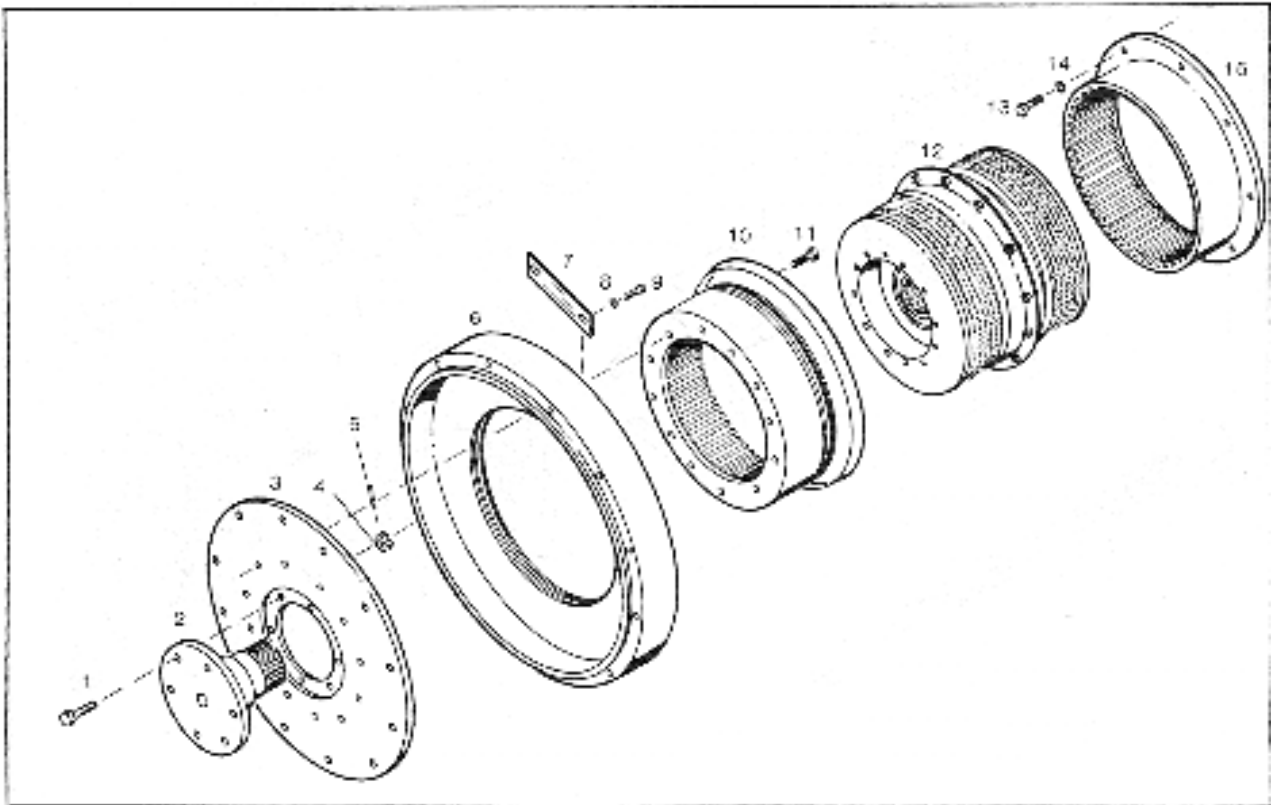

Figure 41. 'HY' Adapter Group and Clutch Pack
8. Fig number and reference number	fig.41 item 10
9. Quantity being Ordered	one (1)